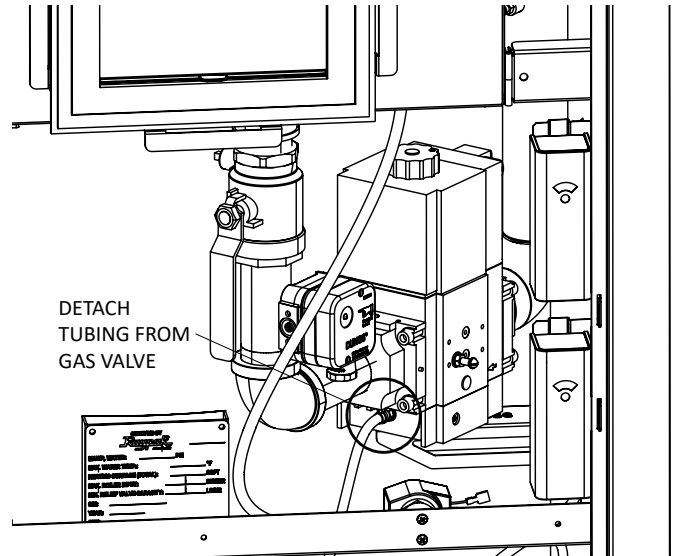

Figure 2. Detach Tubing from Gas Valve
8. Detach the flex tubing from the bottom of the gas valve. See **Figure 2**.